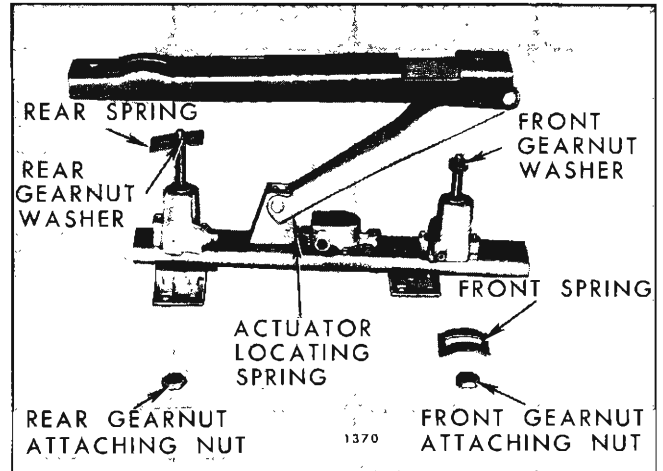

Fig. 1H14—Six-Way Adjuster Gearnuts
4. At top of adjuster, remove front and rear vertical gearnut attaching nuts (Fig. 1H14).
5. Remove front vertical gearnut spring (Fig. 1H14).
6. Lift upward on adjuster upper track; then remove rear vertical gearnut spring (Fig. 1H14).
**IMPORTANT:** Horizontal actuator is under tension from spring shown in Figure 1H14. When installing actuator, be sure actuator locating spring is properly engaged with actuator assembly.
3. If lower channel is being replaced with a new part, transfer plastic slides to new part (Fig. 1H13).